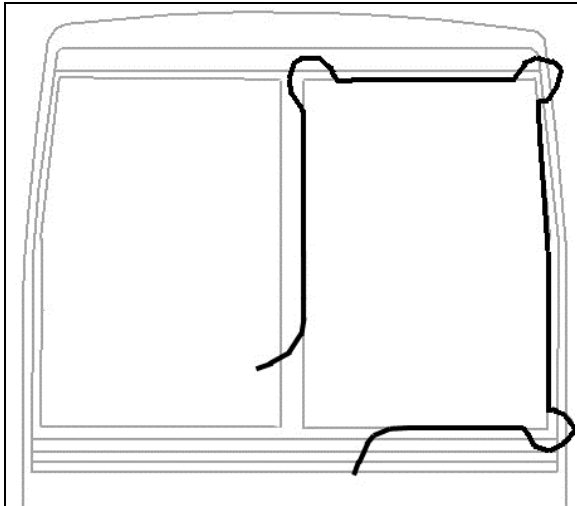

FIGURE 48: WINDSHIELD INSTALLATION USING ROPE
2. Insert rope into rubber extrusion leaving enough length at each corner to make a loop. Spray soapy water onto rope and rubber extrusion (Fig. 48).